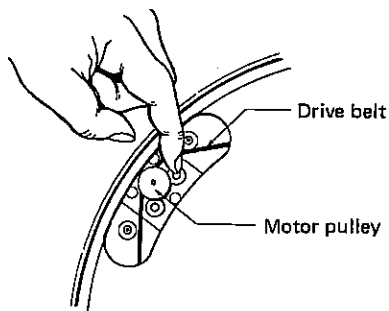

Fig. 2
2. Attach the drive belt as shown on Fig. 2.